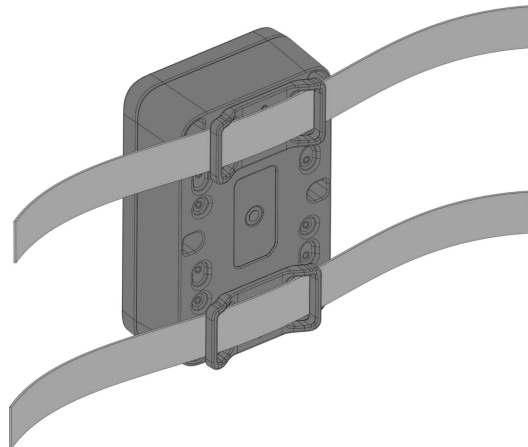

Figure 36: Fixing the enclosure on the belt thread
3. Lastly, thread the belt through the hole of the unify enclosure, as shown in **Figure 36**.